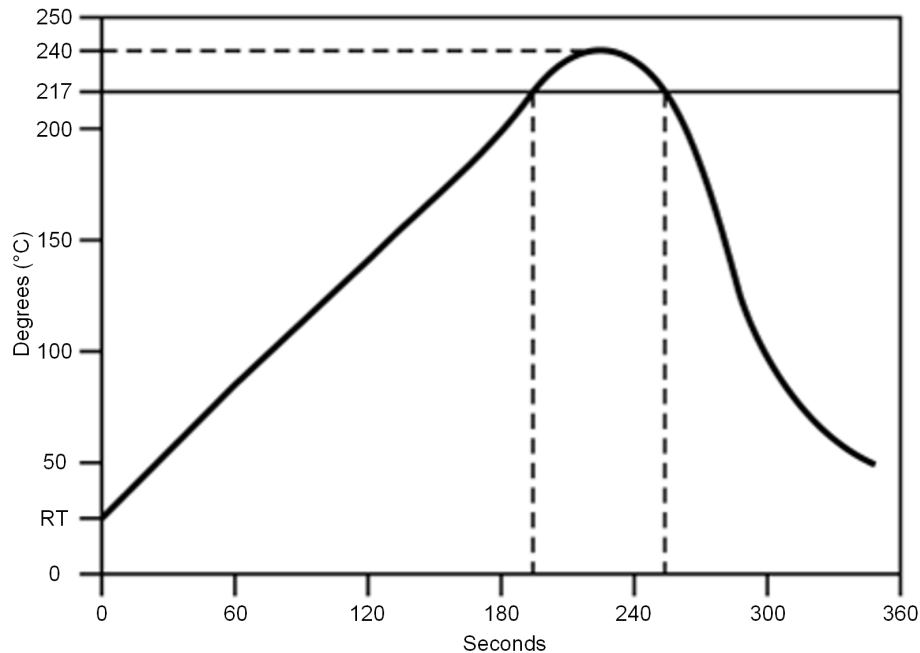

Figure 10-1. Temperature Profile for Evaluation of Solder Heat Resistance of a Component (at Solder Joint)
- Temperature measurement: Thermocouple $d = 0.1\text{mm}$ to 0.2mm CA (K) or CC (T) at soldering portion or equivalent method
- Allowable reflow soldering times: 2 times based on the reflow soldering profile (see Figure 10-1)
- Temperature profile: Reflow soldering will be done according to the temperature profile (see Figure 10-1)